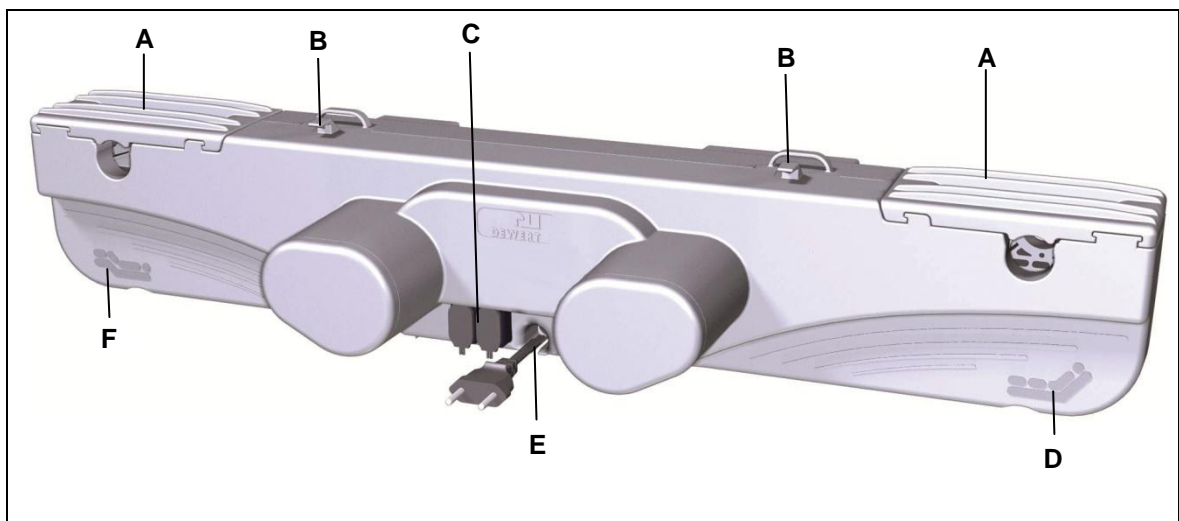

Figure 3 Main components of the DUOMAT 11 double drive (Version: fixed power supply cord)
- 2 Pull strongly on the shutters to the side (A). The slots (B) for the brackets (D) are uncovered.
- 3 Align the DUOMAT 11 next to your product. The slots for the head and foot sides must be properly aligned with the correct brackets on your product (refer to the symbols on the DUOMAT 11 as described in Figure 3).
- 4 Push the drive in so that the brackets (D) fit into the slots (B).
- 5 Close the shutters (A) on the drive by snapping them back in. The DUOMAT 11 is now securely attached to the end product.